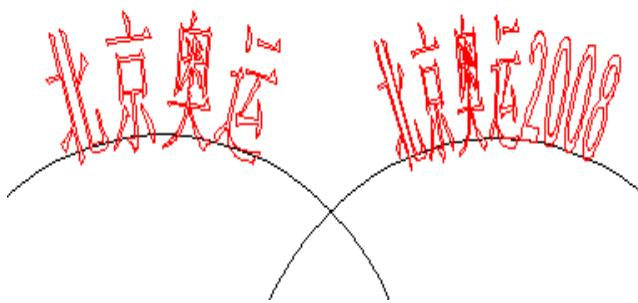

Figure 4-13 Comparison of Two Texts (Limiting Angle is 45 degrees.)
**Normal** mean text will be parallel with the curve, as fig 4-13.
Fig 4-13 normal arrange
**Base** means the base line of the text is superposition with the curve, as fig 4-13.
put text on the other side of the curve, after this function, fig 4-13 will like fig 4-19.
Angle range limit: When checked, no matter how much chars that users type in, the text will be limited in the angle range. (Figure 4-13)